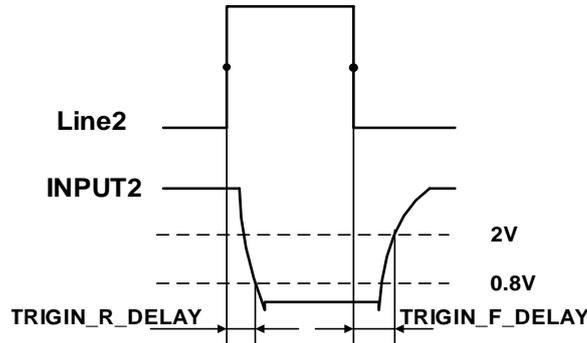

Figure 7-12 Parameter of Line2 input circuit
- Input rising time delay: $<2\mu\text{s}$ ($0^{\circ}\text{C}\sim 45^{\circ}\text{C}$), parameter description as shown in Figure 7-12
- Input falling time delay: $<2\mu\text{s}$ ($0^{\circ}\text{C}\sim 45^{\circ}\text{C}$), parameter description as shown in Figure 7-12